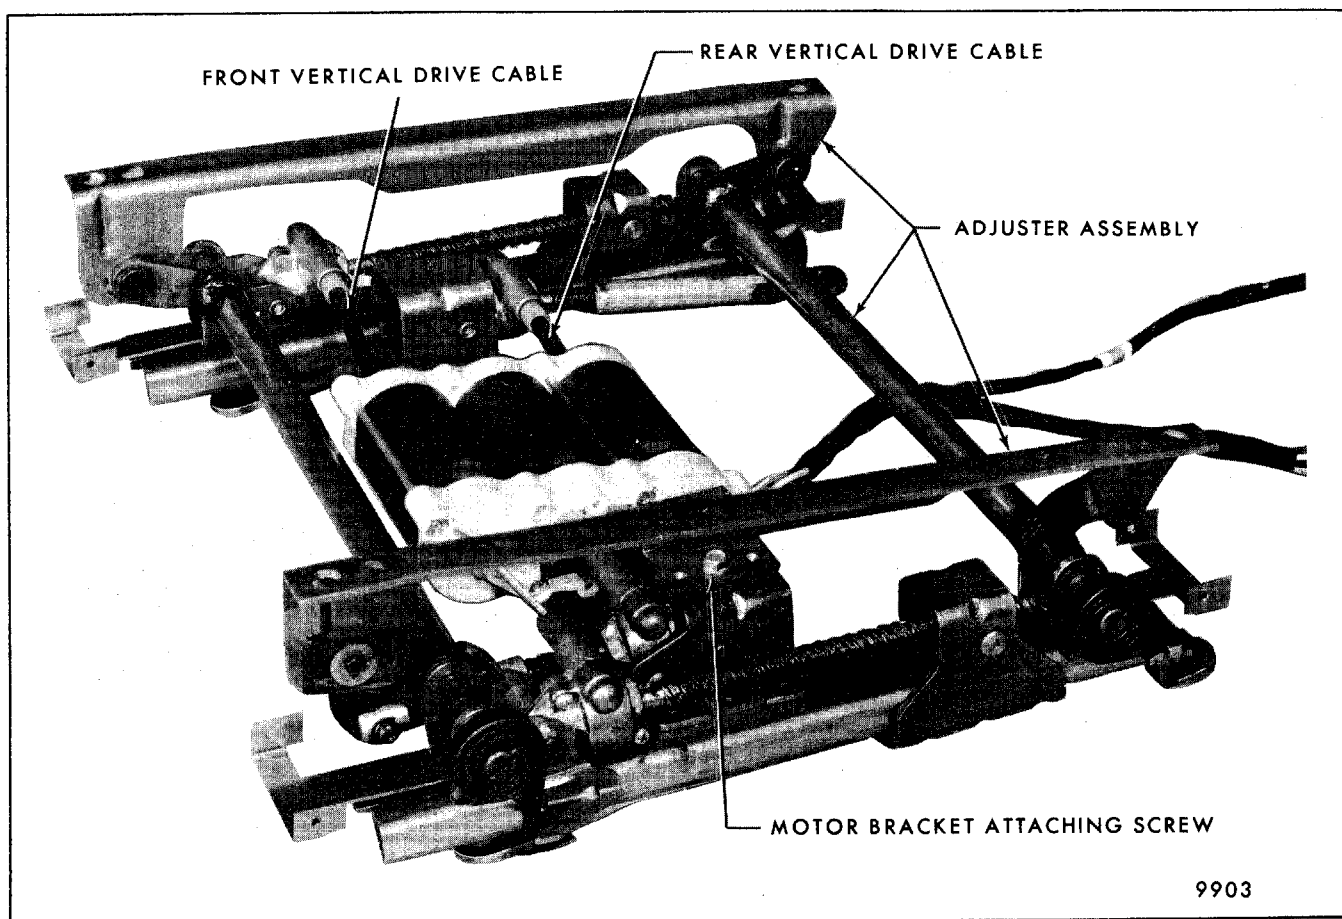

Fig. 9-56 - Six-Way Seat Adjuster Assembly - Cadillac 6CB69 Only
3. Remove screw securing motor assembly bracket to motor mounting bracket on adjuster (Fig. 9-56).
4. Carefully disengage drive cables from adjusters and remove motor assembly from adjusters. Drive cables (Fig. 9-56) may be removed once motor is removed.